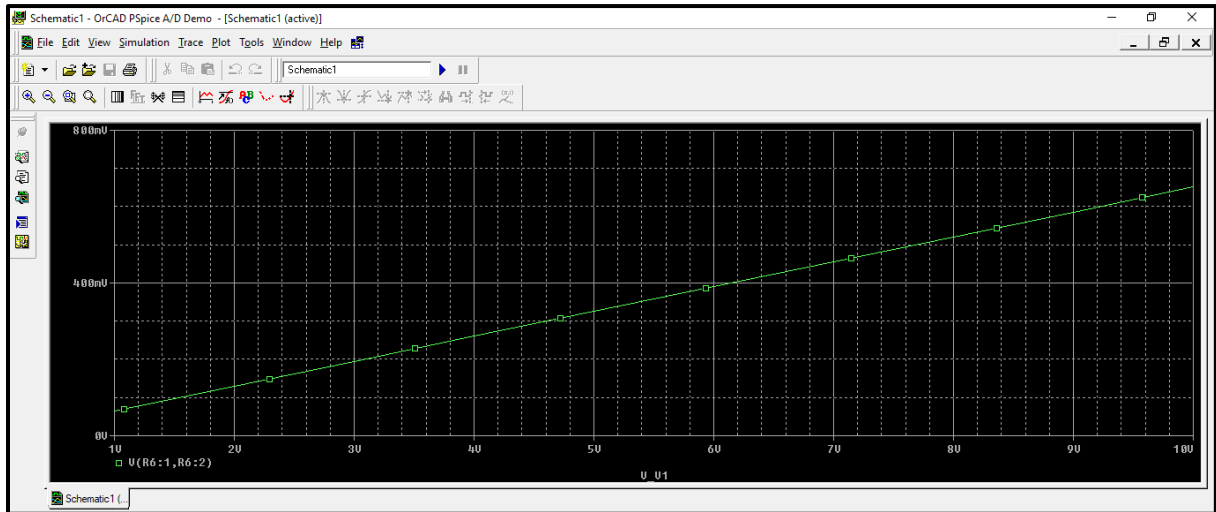

Figure.21
- The output now will be as shown in figure.21. **Note the difference on y-axis range!**